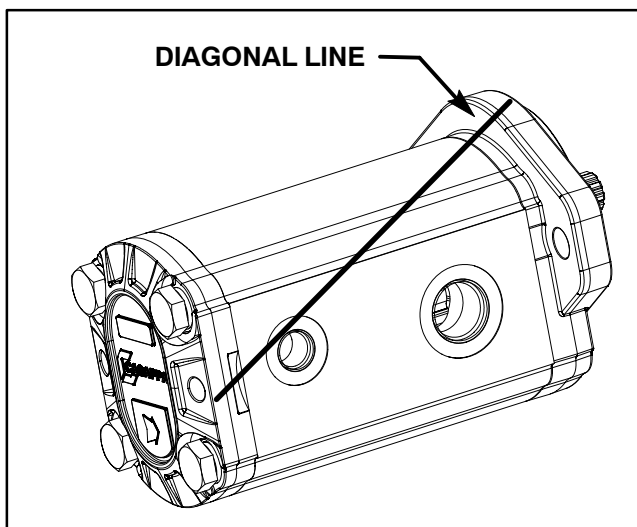

Figure 34
2. Use a marker to make a **diagonal** line across the gear pump for assembly purposes (Fig. 34).